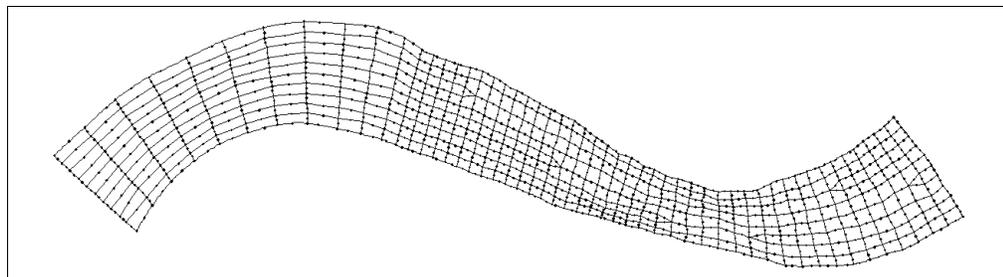

Figure 3-11. Example nodestrings for smoothing the mesh boundary.
3. Select *Elements / Smooth Nodestring*. The mesh boundary will be smoothed as shown in Figure 3-11.